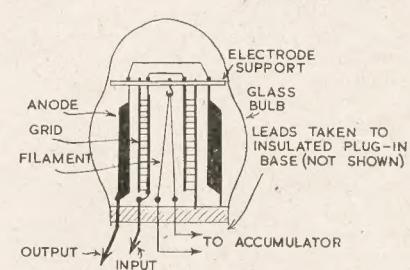

Fig. 4—Details of the valve
The upright rails of the gate, shown in detail on the pattern sheet, will be carried out in the same way, the sectional detail, Fig. 4, showing the uprights cut in, while the curved braces stand flush with the outside frame.
A triode (three-electrode) valve is shown in Fig. 4. The filament is heated from a battery; it then emits electrons which are free to travel about in the vacuum inside the glass bulb. A metal plate (or plates) forms the anode, and this anode attracts the electrons because it is given a positive charge from a second battery—the high tension battery.
The two side rails (D) of the floor are next marked and cut. These measure 8ins. by 1 $\frac{1}{4}$ ins., and are glued and pinned to the edges of the floor, see Fig. 4. There are three axle holes in each piece, one hole in the middle of its length and one towards each end at 1 $\frac{1}{4}$ ins. from the end as Fig. 4 shows.
$\frac{1}{8}$ in. thick and make a very substantial bearing for the toy. The outer faces of the wheels come flush with the ends of the axles, but on the latter will be threaded, during the building up, the washers (G), Fig. 4, which will keep the wheels evenly and properly spaced.
The centre axle will also have similar washers (G) put over it. The washers, of course, are placed so they come on the inside of the rails (D), see Fig. 4. The pulleys (H) are 1 $\frac{1}{4}$ ins. in diameter, are made from the $\frac{1}{4}$ in. wood and grooved deeply with either a rat-tail or three-sided file. The former, it will be found, makes the better and more suitable groove. Glue on the pulleys as shown in position in Fig. 4, and later connect up with the belt shown.